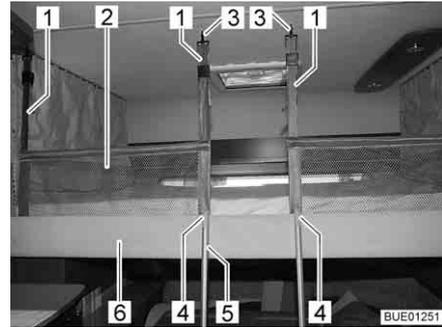
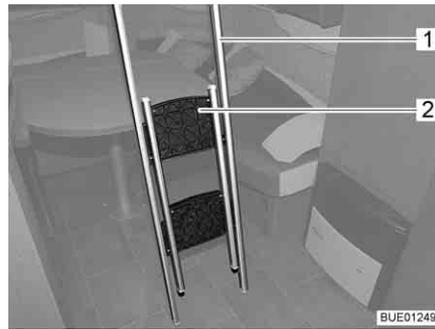
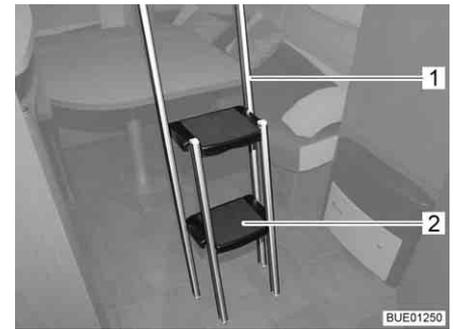

Fig. 79 Pull-down bed complete with applied safety net
Fig. 80 Access ladder, folded in
Fig. 81 Access ladder, folded out
The safety net (Fig. 79,2) and the retaining belts are located underneath the mattress in the pull-down bed. Only use the safety net if persons are already in the pull-down bed.
- Attach the retaining belts (Fig. 79,1) to the hooks (Fig. 79,3) on the ceiling.
- Hook access ladder (Fig. 79,5) to the pull-down bed by attaching the two hooks (Fig. 79,4) in the holding bar (Fig. 79,6).
- Grasp the upper edge of the folded-up part (Fig. 80,2) of the access ladder (Fig. 80,1) and unfold it so that all four feet are securely on the ground (Fig. 81).
- Fold in steps (Fig. 81,2).
- Hang the access ladder (Fig. 81,1) from the holding bar (Fig. 79,6) on the pull-down bed.